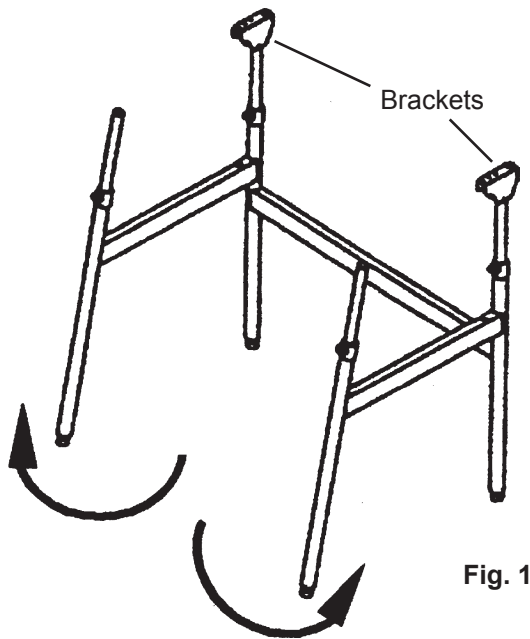

Fig. 1
1. Swing the left and right side legs out as shown. See Fig. 1